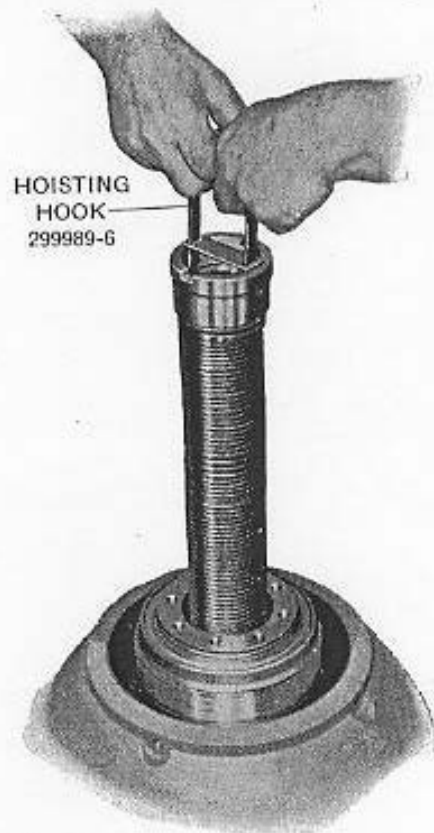

Figure 35—Lifting ram spring and tube assembly from ram
16. RAM SPRING AND TUBE ASSEMBLY (299928) REMOVAL—Engage the two round lugs on outside of hoisting hook (299989-6) in the two holes provided in ram spring retainer (299929-5). **Be sure that the horizontal cross bar on the hook rests on the top edge of the retainer.** See Figure 35. With both hands, carefully raise the spring and tube assembly out of the ram. If the ram is raised with the springs, tap it lightly on top with a soft face hammer. Remove retainer gasket (299930-3).